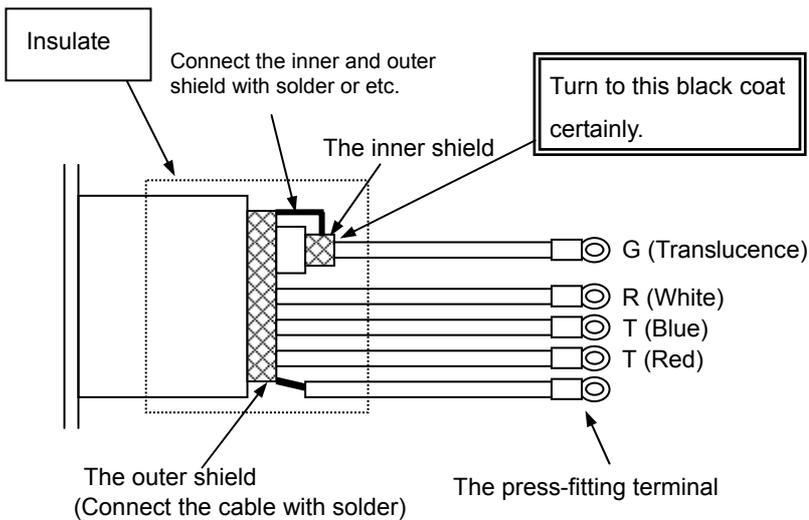

Figure 7 Terminal treatment of the extension cable
- Please perform terminal treatment of the extension cable according to figure 7. The conductive coat (black coat) for static frees occurs in shielding of a G line. Turn to this coat certainly.
· Please perform terminal treatment of the extension cable according to figure 7. The conductive coat (black coat) for static frees occurs in shielding of a G line. Turn to this coat certainly.